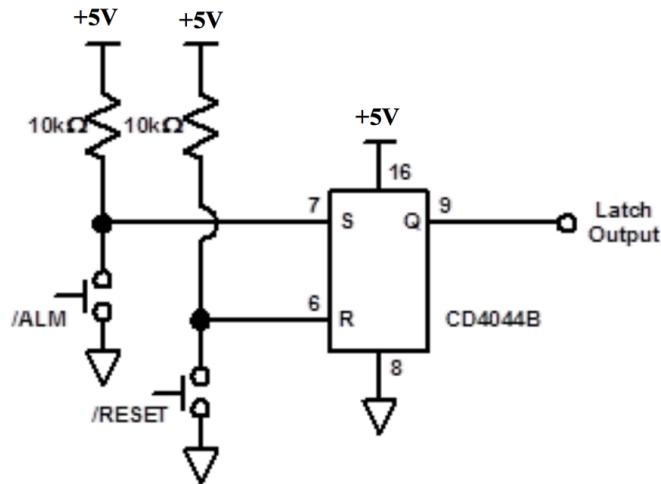

Figure 5.3
C. Solve the following questions using Figure 5.3 below. The initial condition of the output Q is *high* (H). Hint: Refer to the truth table in Figure 5.2 of this lab.